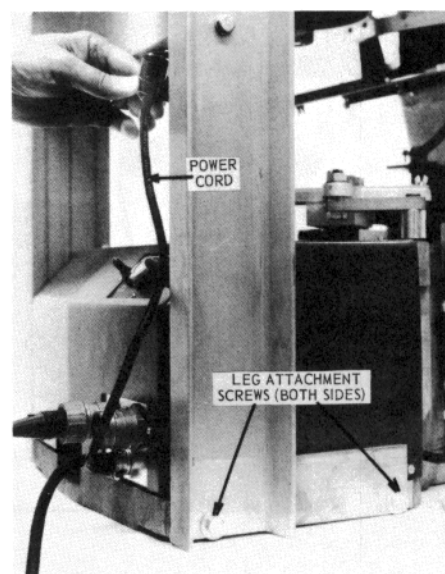
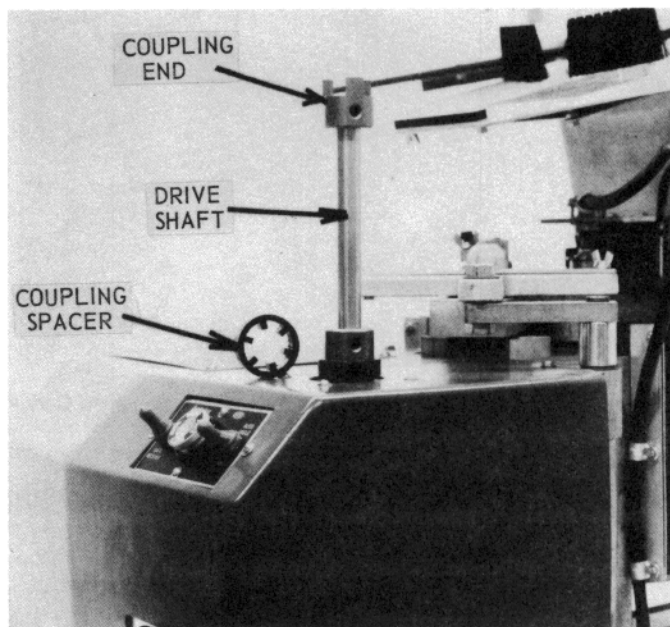

Figure 21 — Power Cord and Leg Attachment Screws
Figure 22 — Drive Shaft and Coupling Spacers
- 7.2 Detach the power cord at the magazine gearbox by turning it counterclockwise and pulling it out (see Figure 21).
- 7.3 Loosen the four screws that hold the magazine support legs to the base (see Figure 21). Pull up on both legs and remove the magazine assembly. Be careful not to lose the drive shaft or the two molded rubber coupling spacers that fit in the coupling ends (see Figure 22).